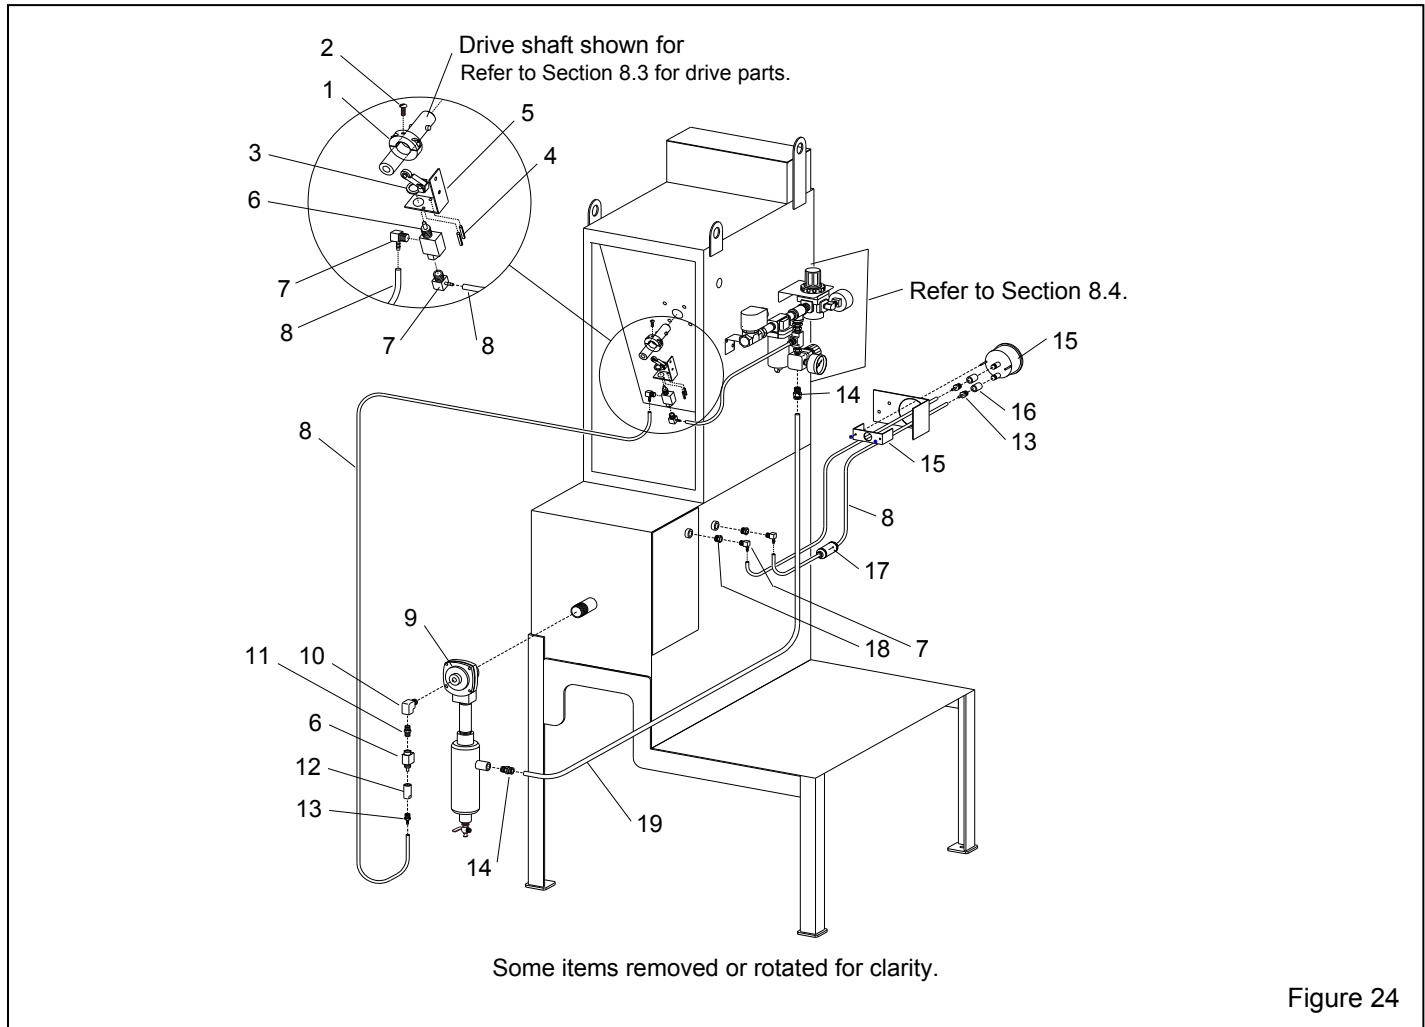

Figure 24
8.7 Dust Collector Pulse and Plumbing – Figure 24